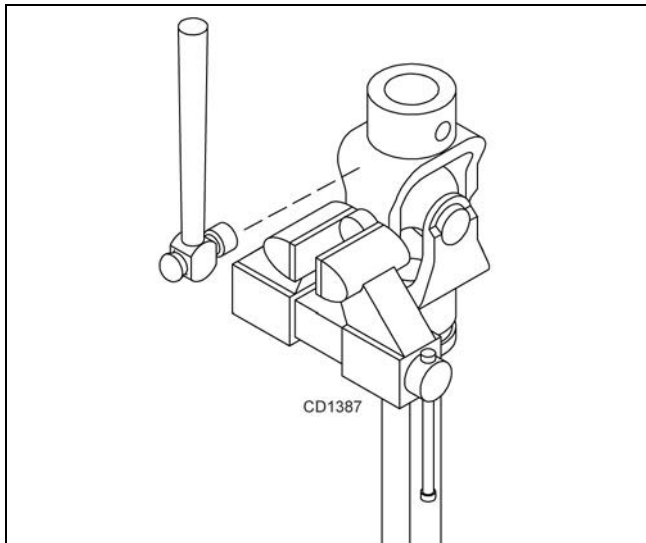

Figure 22
3. Clamp cup in vise as shown in Figure 22 and tap on yoke to completely remove cup from yoke. Repeat Step 2 and Step 3 for opposite cup.